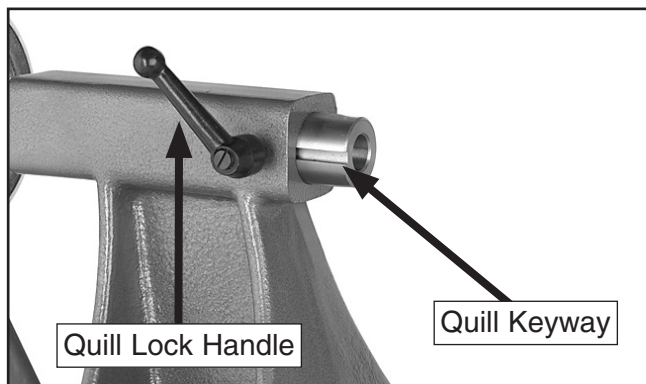

Figure 28. Quill lock handle aligned with quill keyway.
5. Make sure the center of the quill lock handle is aligned with the quill keyway to ensure that the tailstock center and quill will not freely rotate under load (see **Figure 28**).